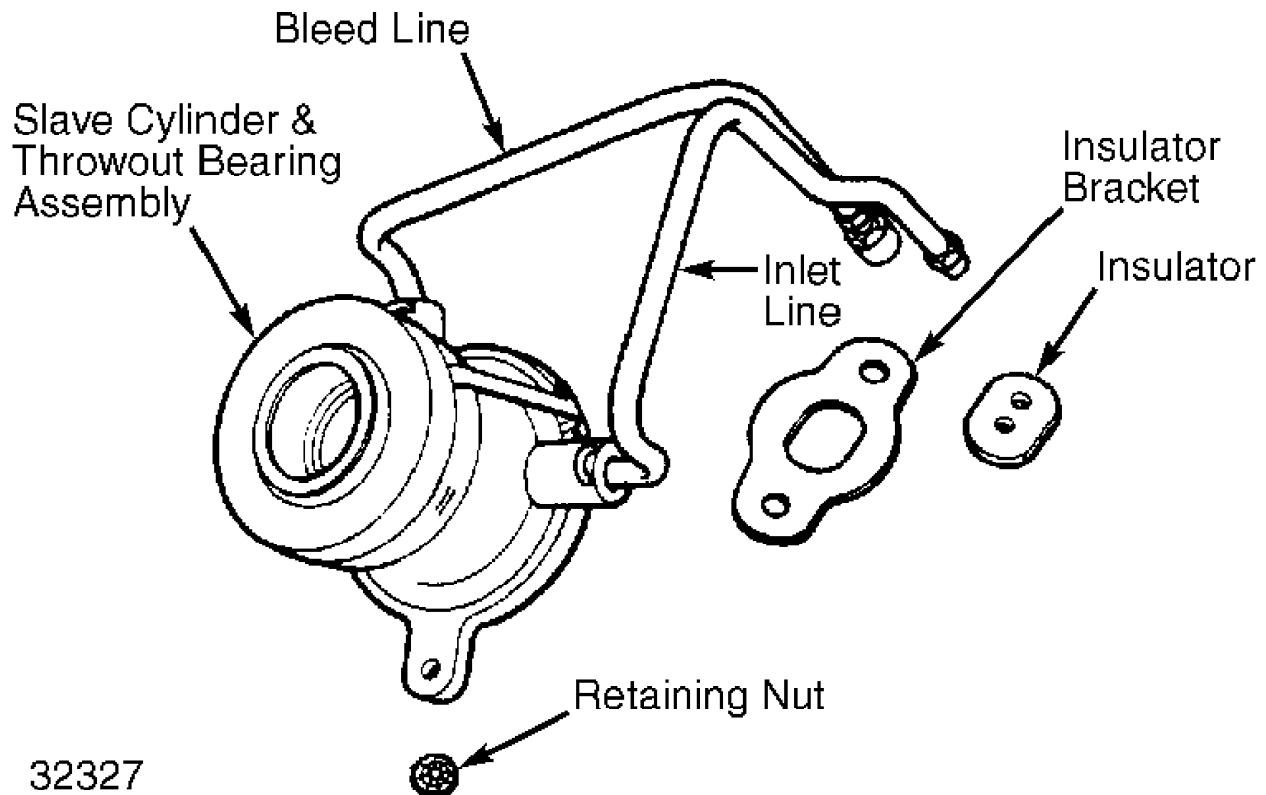

Fig. 1: Clutch Release Bearing & Slave Cylinder (Cherokee & Wrangler)
1) Fill master cylinder reservoir with DOT 3 brake fluid. Raise and support vehicle. Attach bleeder hose to bleeder screw on bleed line of slave cylinder. See Fig. 1. Place other end of hose in glass container half full of brake fluid. Loosen bleeder screw while holding bleeder screw fitting.
1) Drain clutch master cylinder. Disconnect line at clutch master cylinder and clutch slave cylinder lines. Remove transmission and transfer case. Remove insulator bolts and slide insulator and bracket off lines. See Fig. 1.